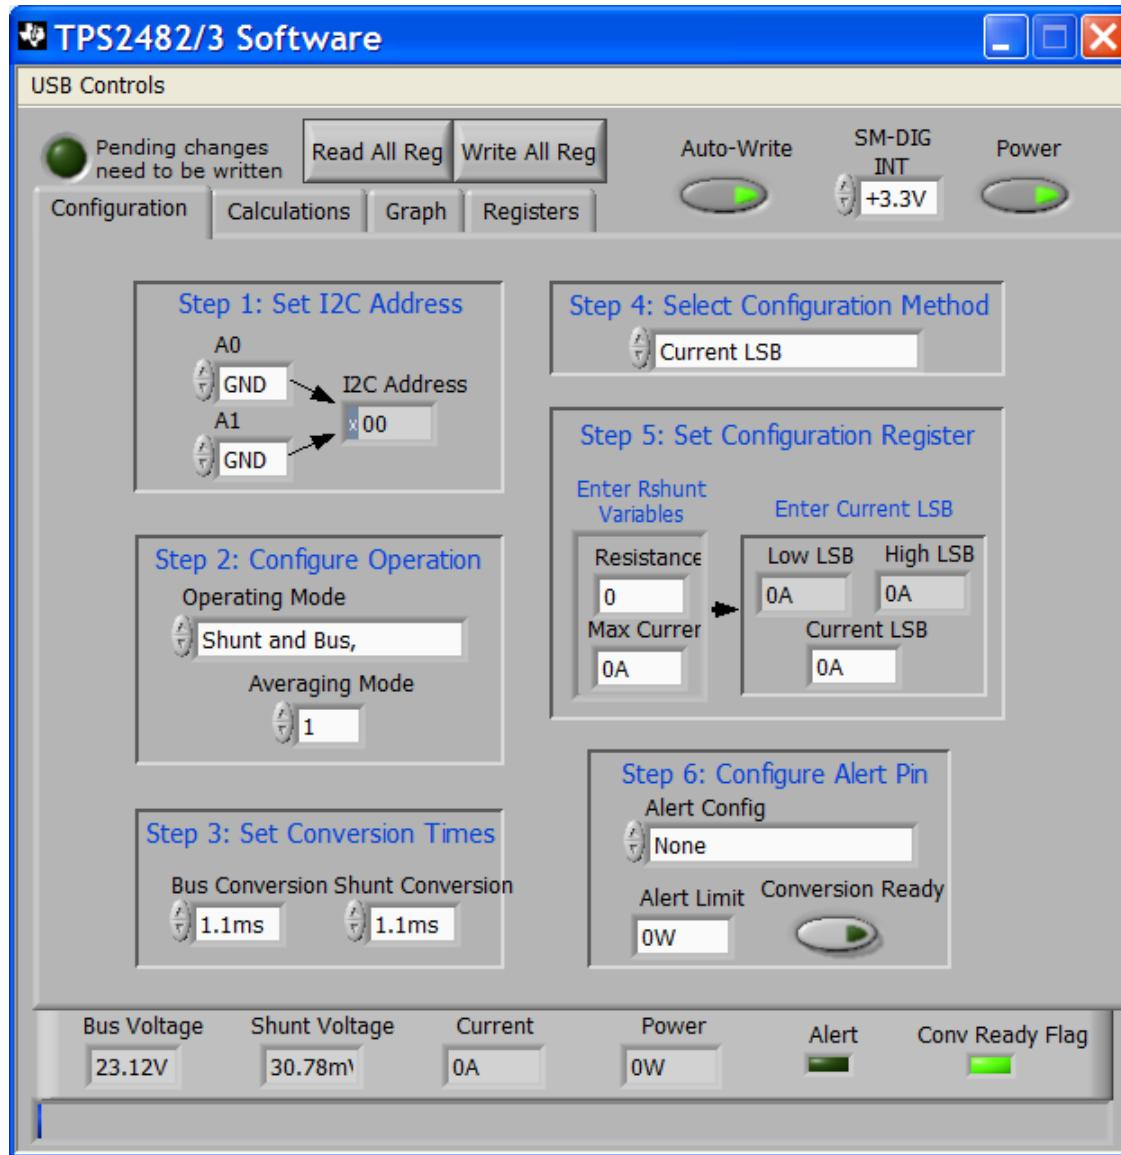

Figure 3. TPS2482 and TPS2483 GUI Overview Form
- Navigate to the TPS2482 and TPS2483 shortcut and start the GUI (see Figure 3).